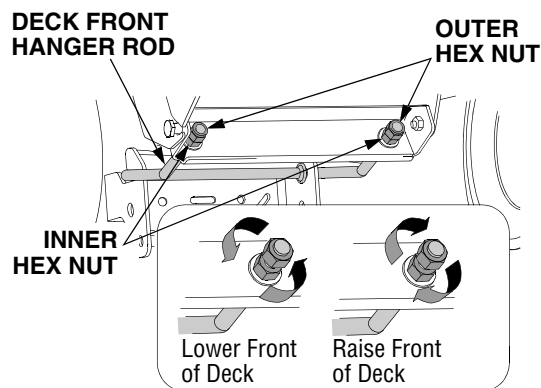

Figure 33
4. From the front of the tractor, loosen the outer nuts on the deck front hanger rod, and turn them away from the inner nuts. (Refer to Figure 33).